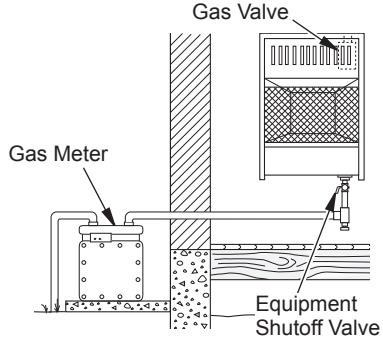
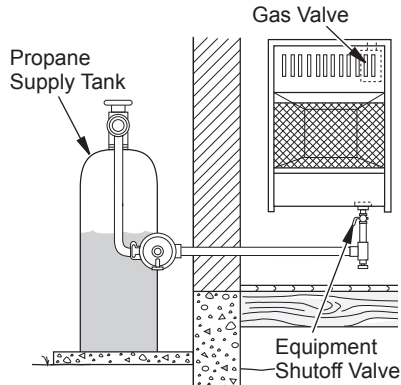

Figure 18 - Natural Gas Supply
Figure 19 - Propane Fuel Supply
3. Check all joints from gas meter (natural gas installations, see Figure 18) or from propane tank (propane gas installations, see Figure 19) to equipment shutoff valve. Apply a noncorrosive leak detection fluid to all joints. If bubbles form, there is a leak.
4. Check all joints from equipment shutoff valve to control valve (see Figure 18 or 19). Apply a noncorrosive leak detection fluid to all joints. Bubbles forming show a leak.
4. Wait five (5) minutes to clear out any air. Then smell for gas, including near the floor. If you smell gas, STOP! Follow "B" in the safety information above. If you do not smell gas, go to the next step.
5. Turn control knob counterclockwise  to the PILOT position. Press in control knob for five (5) seconds (see Figure 19).